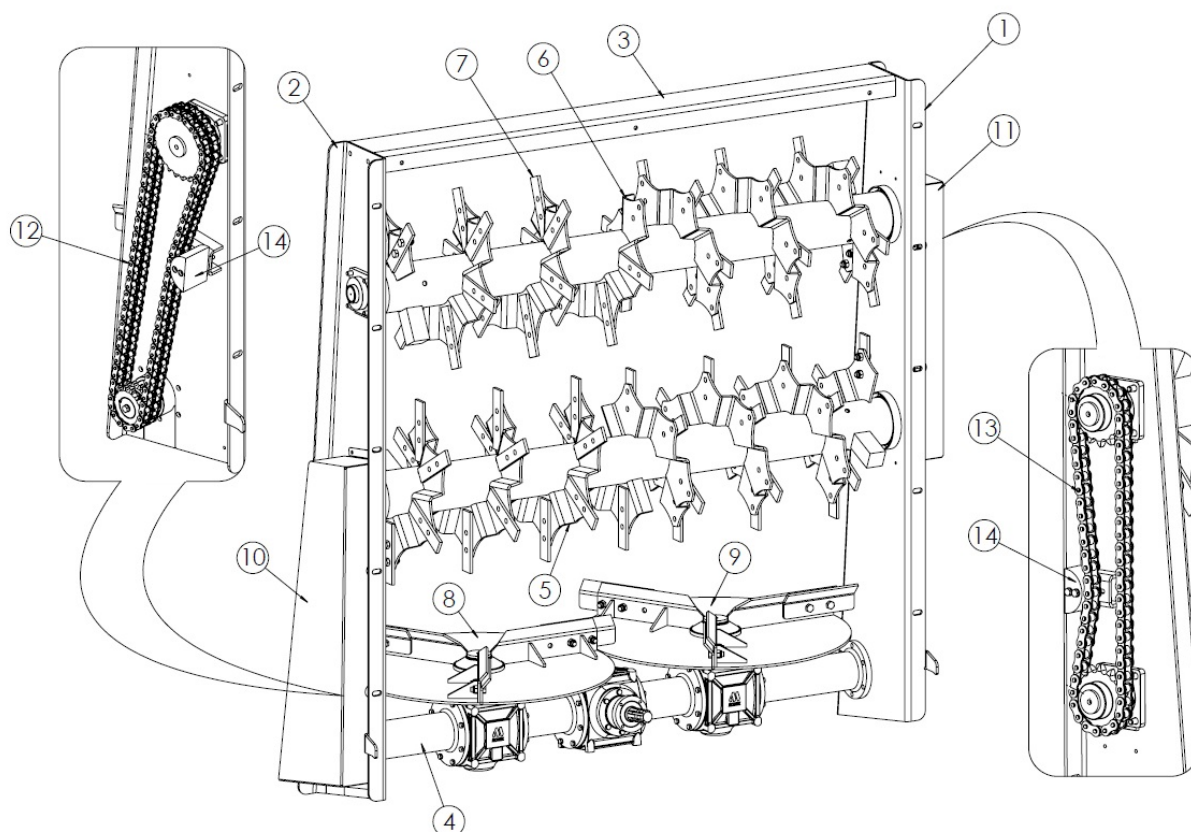

Figure 8 The 2-auger horizontal disc beater unit
The 2-auger horizontal disc beater unit (fig. 8) consists of a left beam (1), a right beam (2), and an upper beam (3), to form the beater unit frame. In its lower part there is a gearbox (4), on which the spreading discs (5) and (6) are mounted. The main work tools are replaceable blades (7) fastened to the horizontal augers (8) and (9). The augers shred the feed material, which is guided through the beater-unit shield on to the spreader discs. The rotating discs eject the shredded material backwards and sideways. The drive is supplied from the gearbox (4) to the horizontal augers (5) and (6) by the transmission chains under the shields (10) and (11). The auger is powered from the gearbox by the lower 16B2 chain (12). The top auger is powered from the bottom auger by the 20B1 chain (13). The chain tension is controlled by tensioners (14).